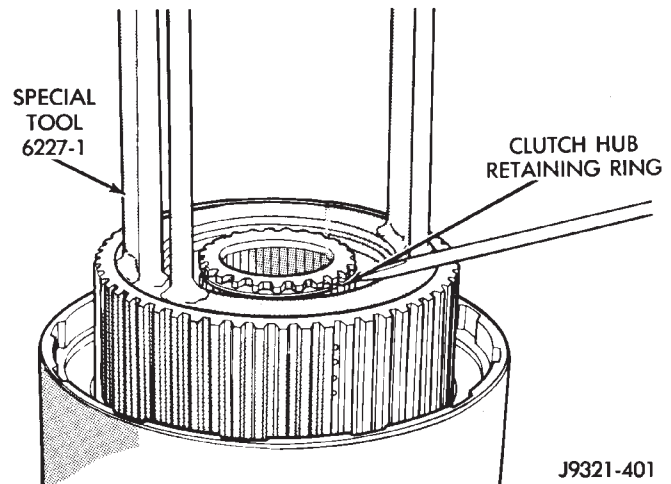

Fig. 55 Installing Clutch Hub Retaining Ring
(29) Install clutch hub retaining ring (Fig. 55). **Be very sure retaining ring is fully seated in sun gear ring groove.**
(30) Slowly release press ram, remove compressor tools and remove geartrain assembly.